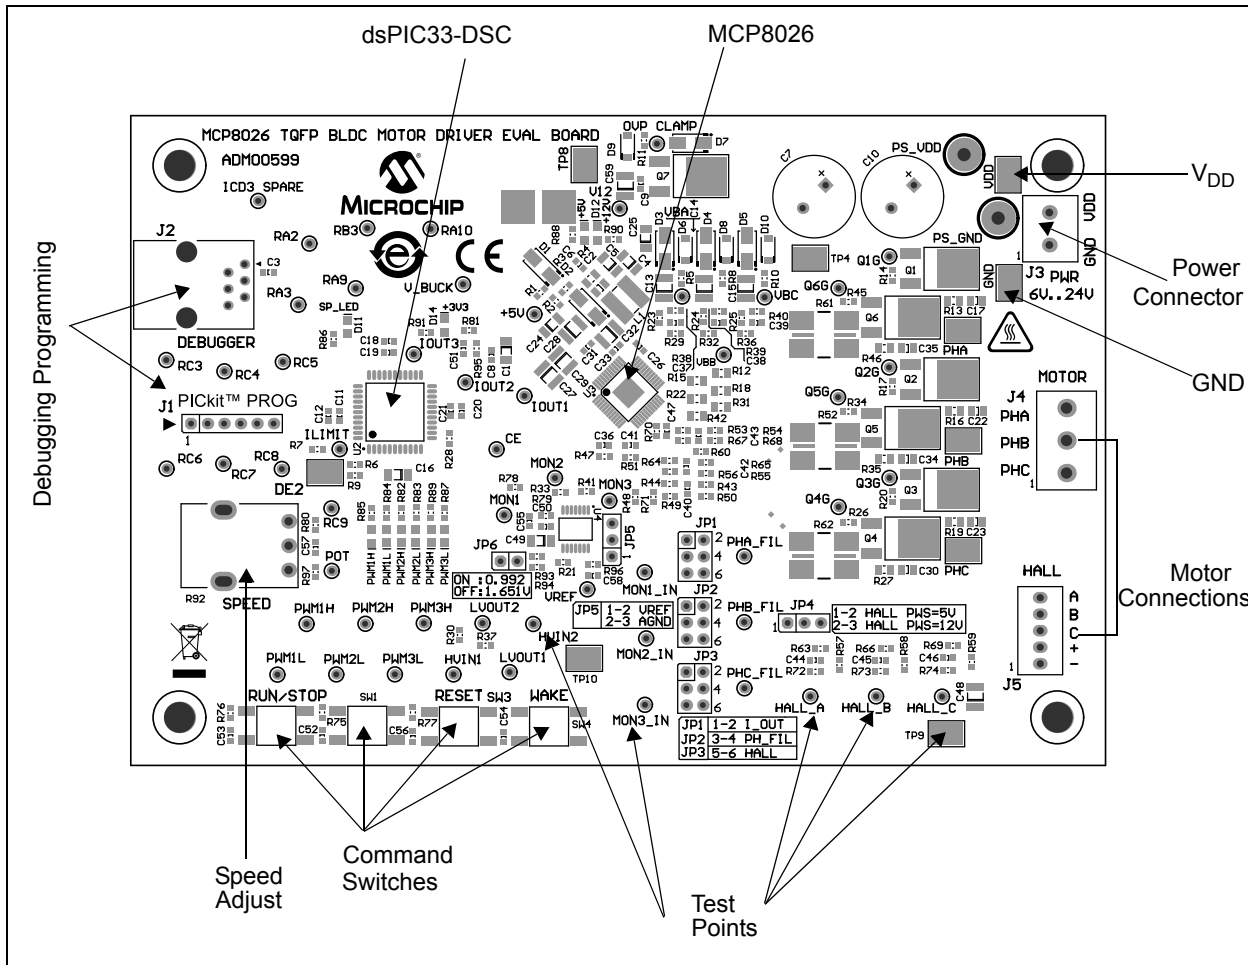

FIGURE 2-2: Connection and Operation Diagram.
2.3.1.2 POWERING THE MCP8026 TQFP BLDC MOTOR DRIVER EVALUATION BOARD (REFERENCE Figure 2-2)
2. Connect the positive side of the input power source (+) to pin 2 of J3. Connect the negative or return side (-) of the input source to pin 1 of J3. Refer to Figure 2-2.